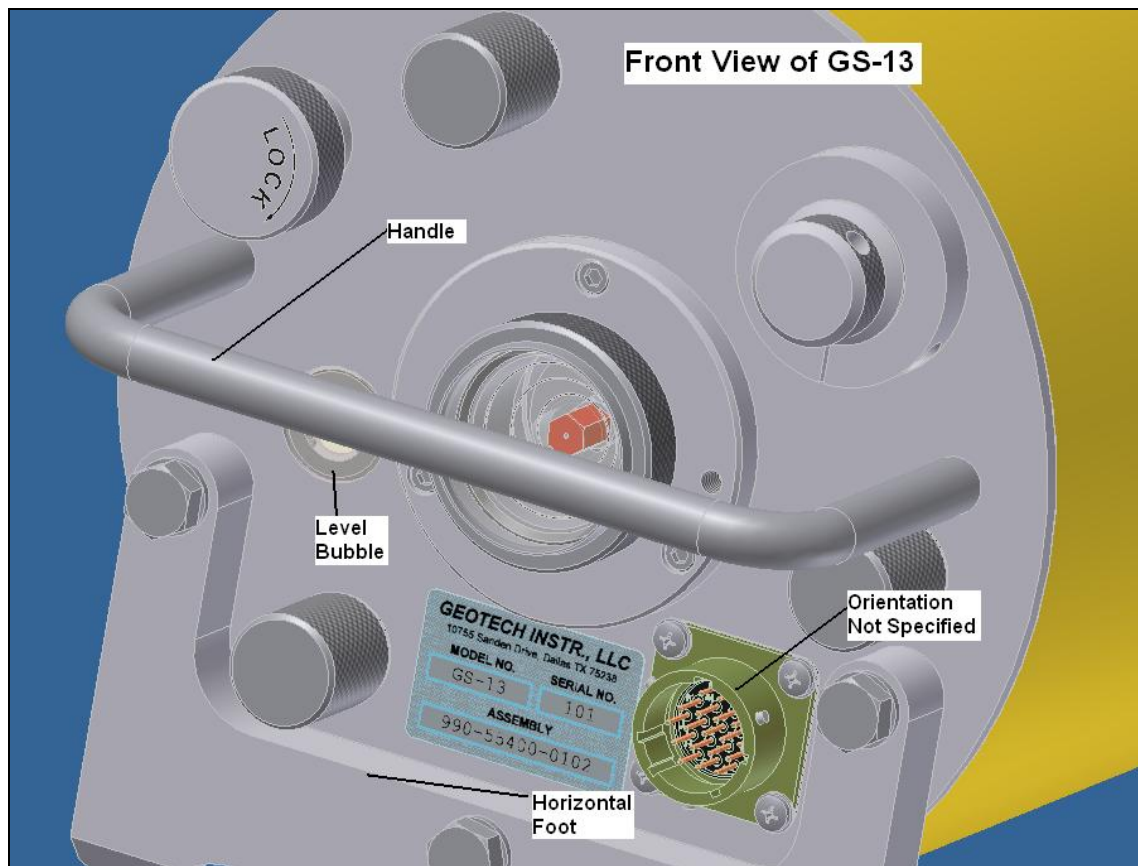

Figure 2. GS-13 Configuration.
- 2) *Electrical connector orientation.* Final assembly drawings for GS-13LV, and GS-13LH will include view and note of connector orientation to ensure compliance. Figure 2 shows a front view of the GS-13 for reference. Figure 3 shows a front view of the GS-13LV. Figure 4 shows a front view of the GS-13LH.